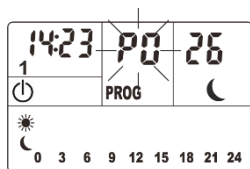

Fig.1
1. Long press  button and select P0 mode. The PROG icon on the screen will light up. (Fig.1)